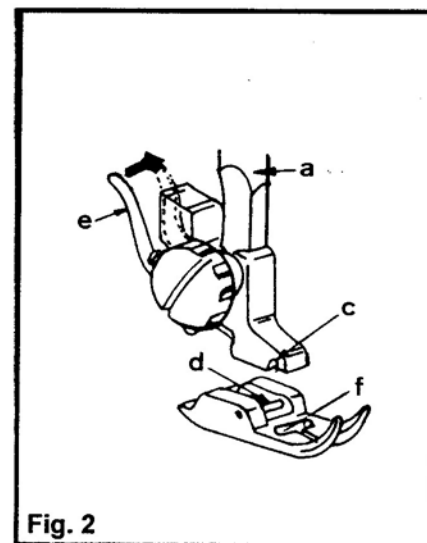

Fig. 2
2. Place the spool of thread and follow the threading as shown in Fig. 2.
3. Push the spindle to the winding position on the right side. Fig. 2